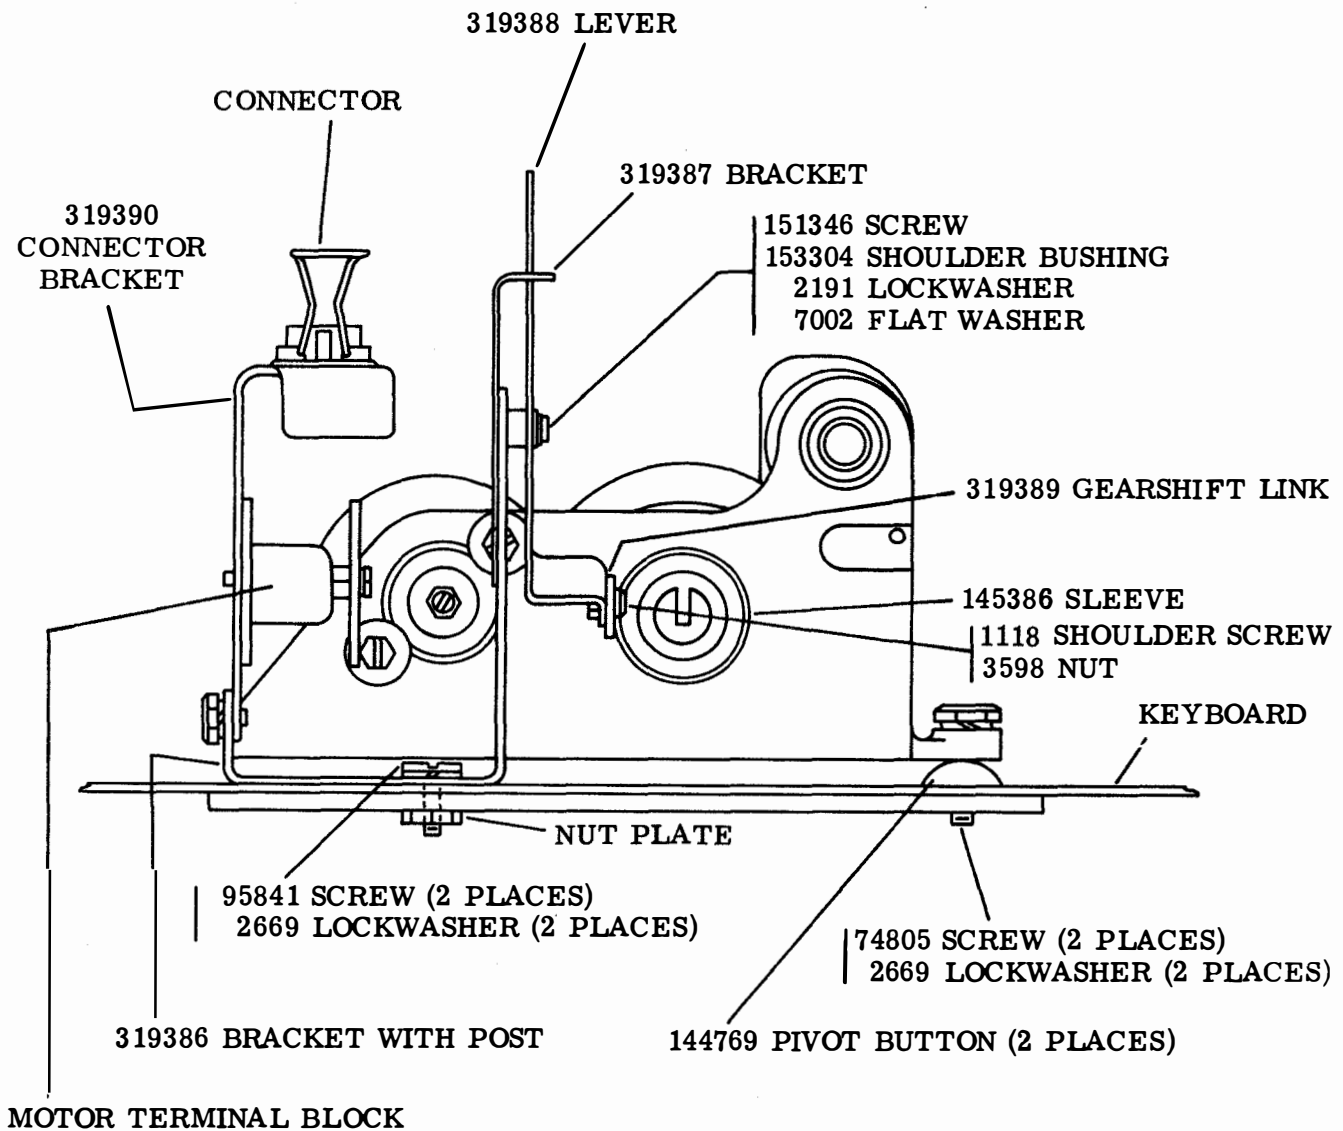

Figure 1
3.03 Insert two 95841 screws and 2669 lockwashers through the 319386 bracket and fasten to the top of the keyboard by securing the existing nut plate to the underside of the keyboard base (see Figure 1). Also secure the 151442 screw, 7002 flat washer, 2191 lockwasher and 3598 nut to the 319386 bracket and fasten to the top of the keyboard.